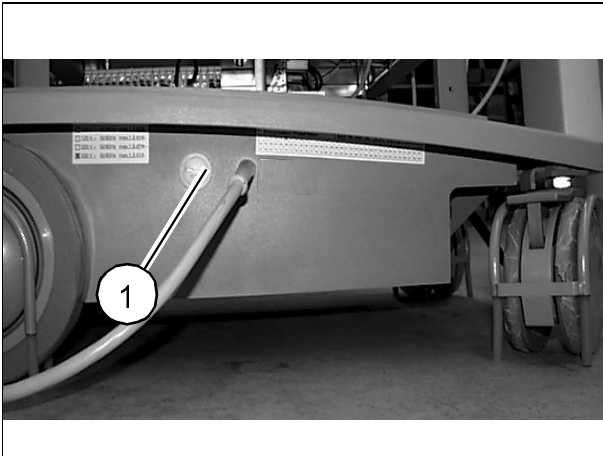

Fig. 3
- Remove the steel cover (1/Fig. 3) from the old covers and attach it to the new covers.